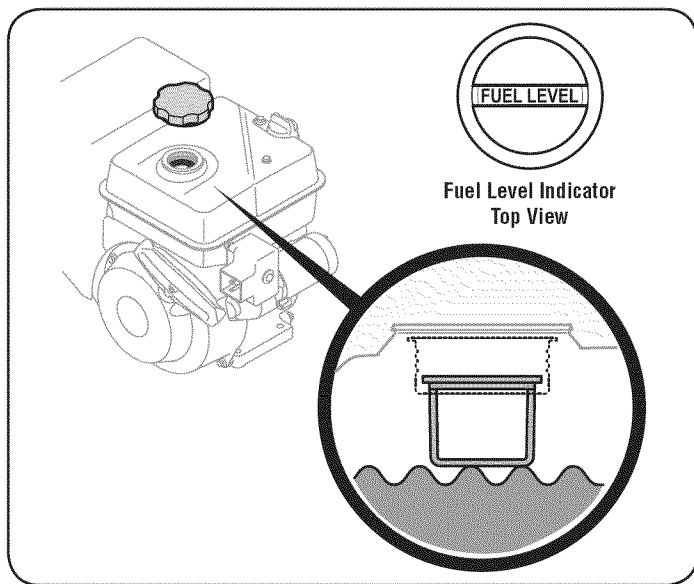

Figure 10
4. Fill the tank until the fuel reaches the "fuel full" indicator mark. See Figure 10.
4. Move throttle control to START/RUN (Rabbit)  position. See Figure 10.